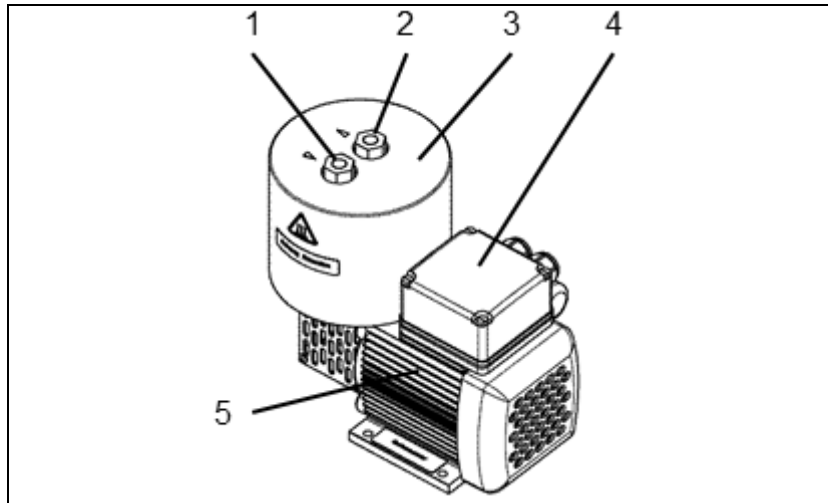

Fig. 1: N 012\_T.16 E
2. Take off the terminal cover of motor (see Fig. 1, position 4), to do this, release the four screws.